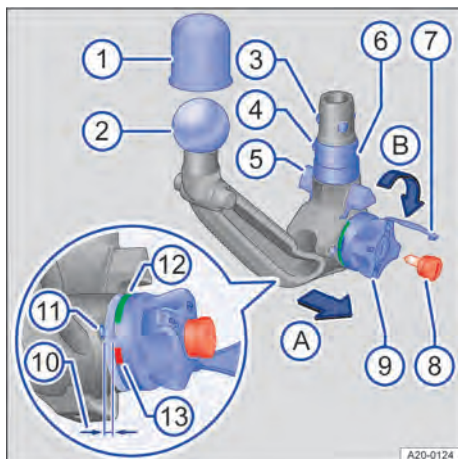

Fig. 163 Overview: removable ball coupling.
4. Remove the lock cap → Fig. 163 ⑦ from the lock on the handwheel.
5. Insert the key → Fig. 163 ⑧ into the lock and turn it anti-clockwise.
6. Hold the ball coupling → Fig. 163 ② tightly in one hand → ▲.
7. Use your other hand to pull out the handwheel → Fig. 163 ⑨ in the direction of arrow A and hold it in this position.
8. Turn the handwheel → Fig. 163 ⑨ as far as it will go in the direction of the arrow B.
9. Hold the handwheel → Fig. 163 ⑨ in this position and guide the ball coupling ② downwards out of the mount. The ball coupling engages and is pre-tensioned.
2. Use your other hand to turn the handwheel → Fig. 163 ⑨ as far as it will go in the direction of the arrow B.
3. Press in the ball → Fig. 163 ④.
4. Turn the handwheel back → Fig. 163 ⑨ anti-clockwise.
5. Release the ball → Fig. 163 ④. The handwheel no longer protrudes from the ball coupling. The ball coupling is now slackened.
6. Turn the key → Fig. 163 ⑧ clockwise and remove. Store the key in the stowage box.
7. Close the lock cap → Fig. 163 ⑦.